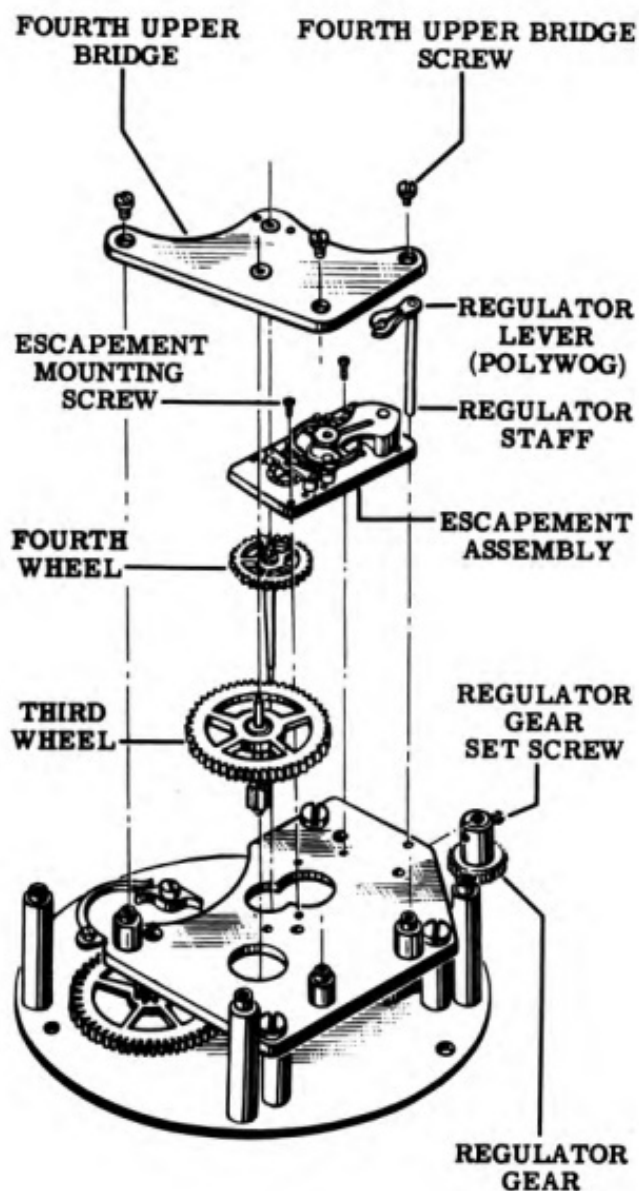
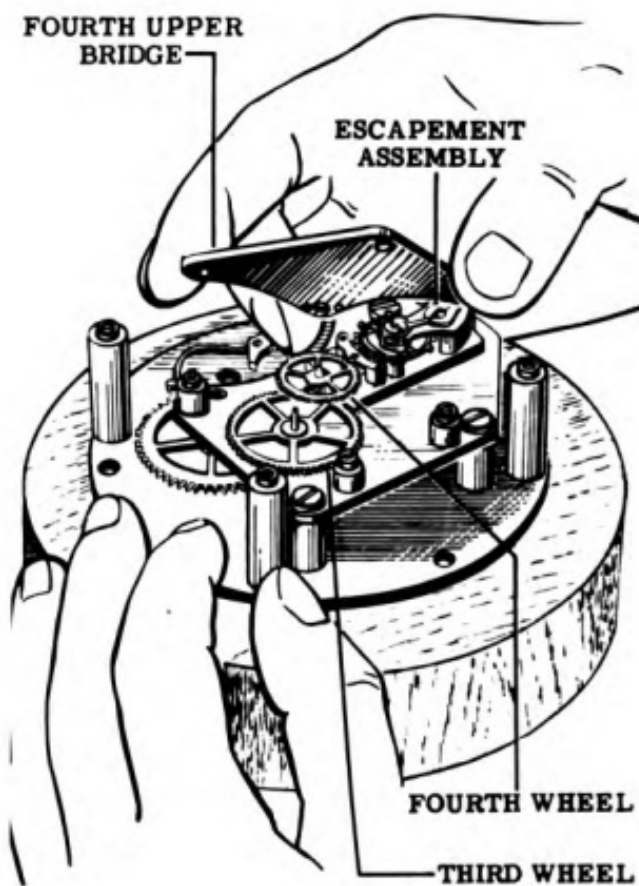

Figure 21
Figure 22
10. Unscrew the three fourth upper bridge screws (see Fig. 21) and lift off the fourth upper bridge as shown in Fig. 22.
11. Unscrew the regulator gear set screw just enough to release its hold on the regulator staff assembly. Lift out the regulator staff, complete, and slip out the regulator gear from the side. See Fig. 21. If the regulator gear does not come out easily, allow it to remain in place until Operation 15.
13. Lift out the fourth and third wheels. See Fig. 21.